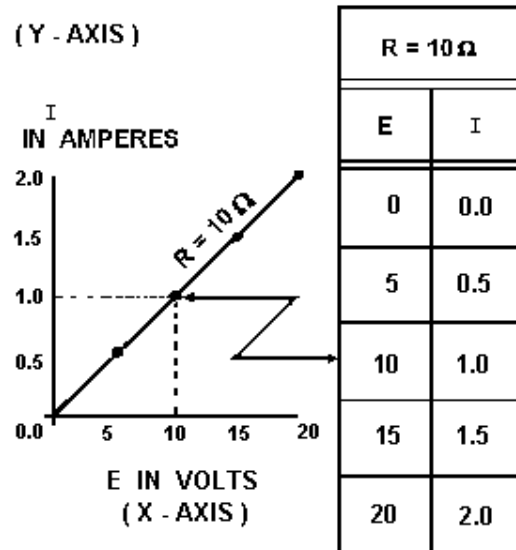

Figure 3-7.—Volt-ampere characteristic.
Figure 3-7 shows the graph and a table of values. This table shows R held constant at 10 ohms as E is varied from 0 to 20 volts in 5-volt steps. Through the use of Ohm's law, you can calculate the value of current for each value of voltage shown in the table. When the table is complete, the information it contains can be used to construct the graph shown in figure 3-7. For example, when the voltage applied to the 10-ohm resistor is 10 volts, the current is 1 ampere. These values of current and voltage determine a point on the graph. When all five points have been plotted, a smooth curve is drawn through the points.
- Q7. Using the graph in figure 3-7, what is the approximate value of current when the voltage is 12.5 volts?*